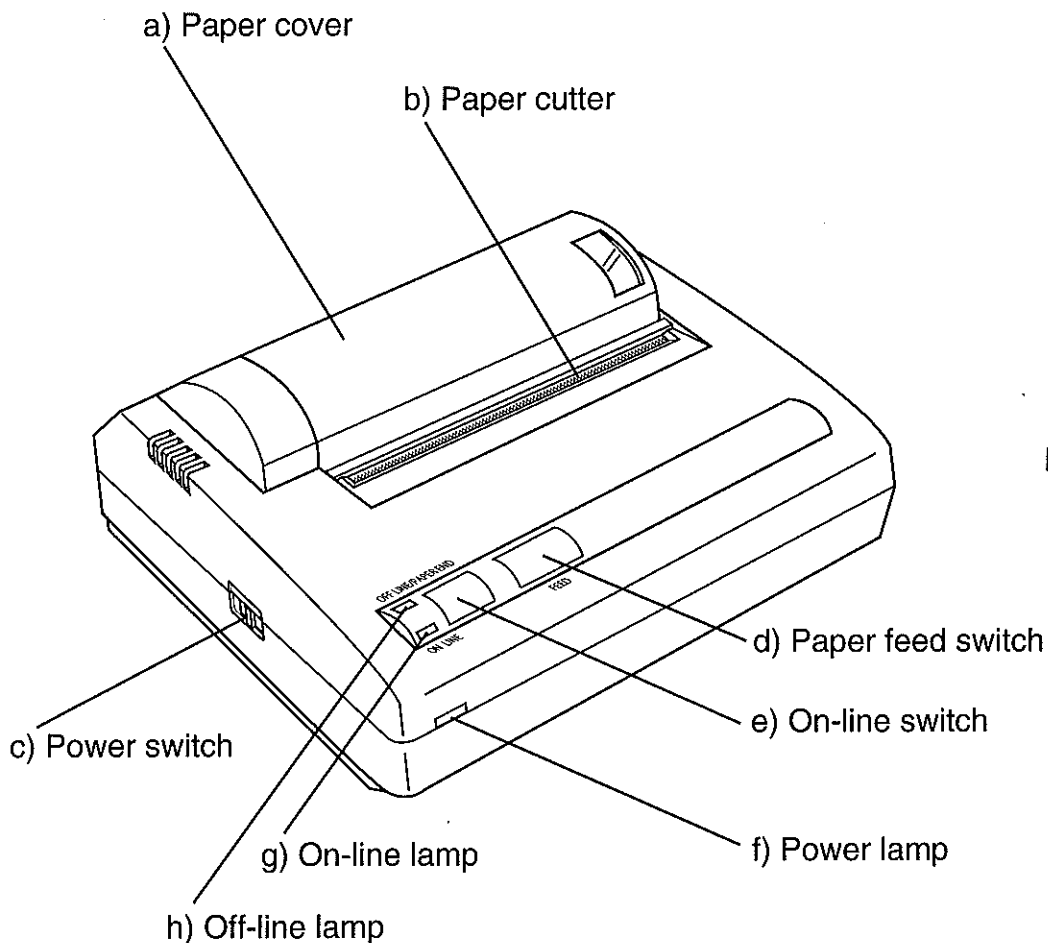

Fig. 4-7
(3)-1 Top of the main body (Fig. 4-7)